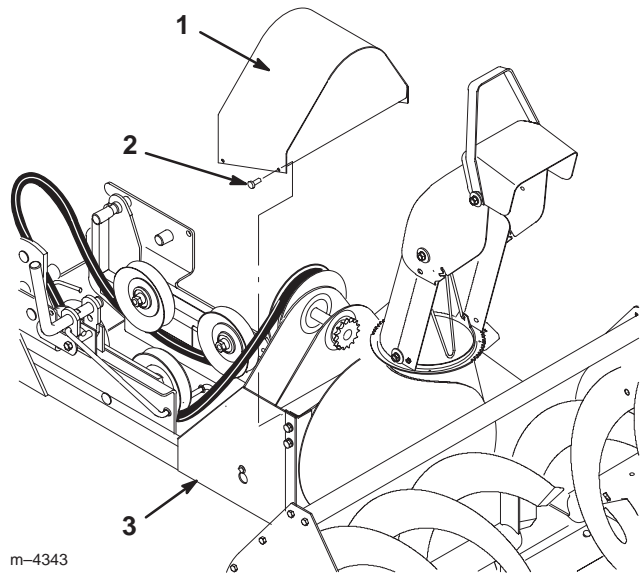

Figure 43
3. Remove the pulley cover from the snowthrower frame assembly, by removing the (4) #10 x 1/2" (13 mm) screws (Fig. 43).
7. Attach the pulley cover to the snowthrower frame assembly with (4) # 10 x 1/2" (13 mm) screws (Fig. 43)